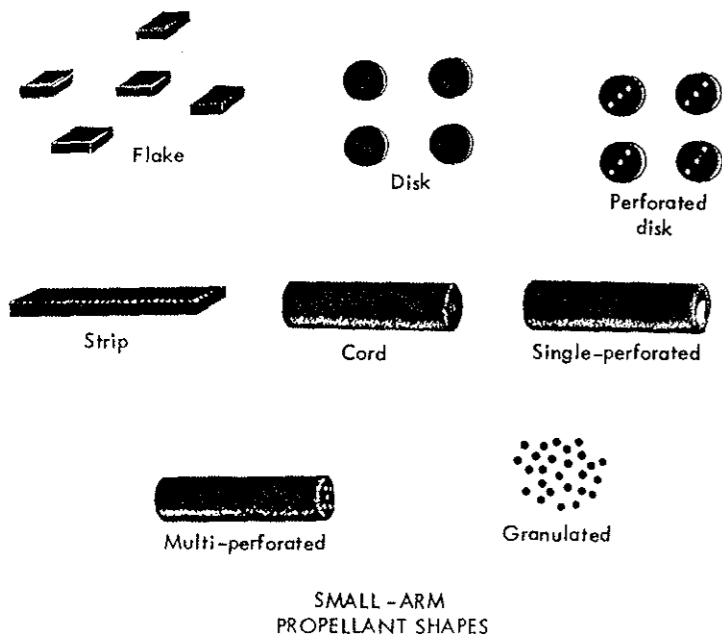

Figure 54.
Propellants are usually formed with one of eight common shapes, as shown in figure 54.
4. *Propellant Charge* (fig. 54).